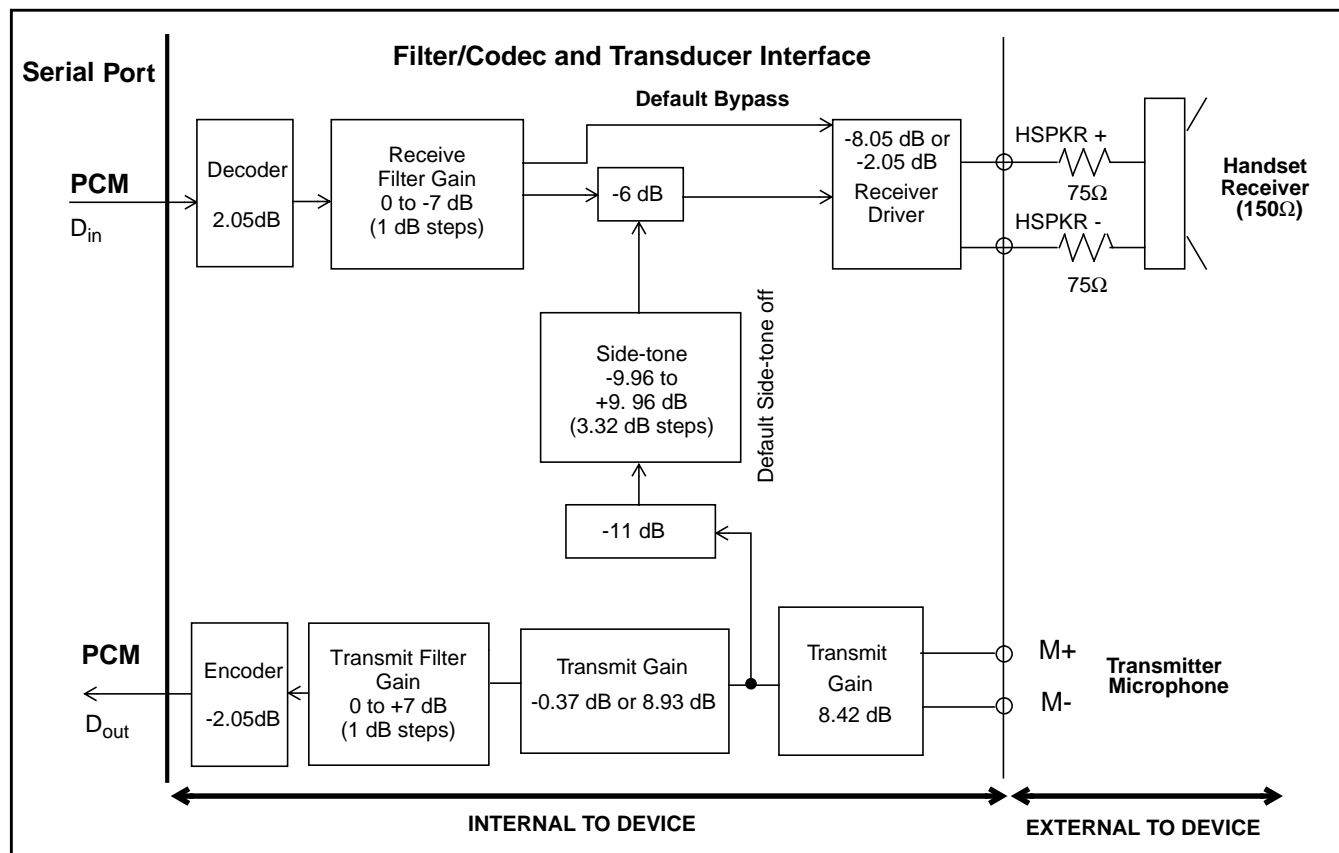

Figure 3 - Audio Gain Partitioning
The Filter/Codec block also implements transmit and receive audio path gains in the analog domain. A programmable gain, voice side-tone path is also included to provide proportional transmit speech feedback to the handset receiver. This side tone path feature is disabled by default. Figure 3 depicts the nominal half-channel and side-tone gains for the MT9160B/61B.
- The handset speaker outputs (receiver), pins HSPKR+/HSPKR-. This internally compensated fully differential output driver is capable of driving the load shown in Figure 3. The nominal receive path gain may be adjusted to either 0 dB, -6 dB or -12 dB. Control of this gain is provided by the RxINC control bit (Gain Control register 1, address 00h). This gain adjustment is in addition to the programmable gain provided by the receive filter.